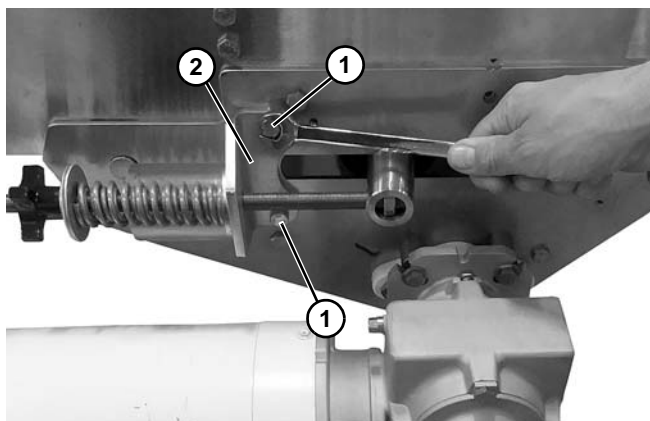

Figure 101
7. Remove two screws (**Figure 101, item 1**) from plate (**Figure 101, item 2**) on both sides of the center drive.